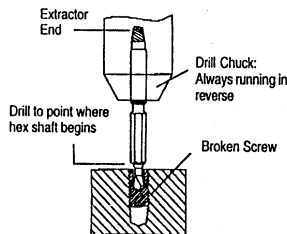

Figure 2 - Drilling
3. Unplug drill. Insert round shaft into drill chuck and tighten chuck jaws securely. See Figure 2.